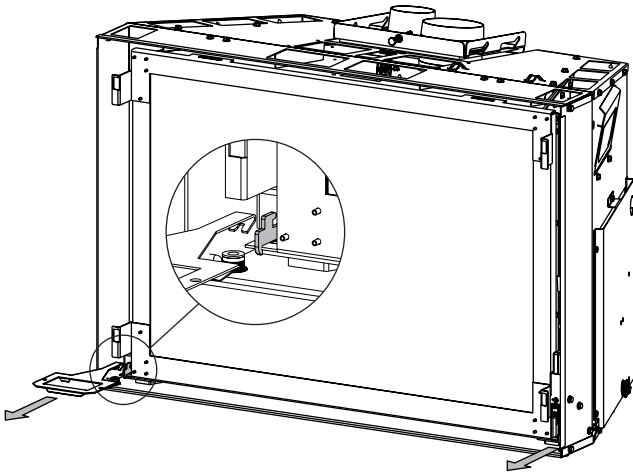

Figure 17
18. Remove glass door assembly: Using the glass door latch tool provided, hook onto the latches on the top of the insert and pry it over the glass door assembly flanges. The top of the glass door assembly will angle toward you. Simply lift to remove the glass door assembly. **See Figure 17.**